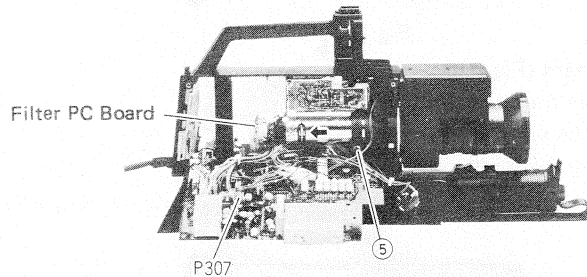

Fig. 6
#### 5. Deflection coil (Fig. 6)
1. Remove the preamplifier PC Board (Fig. 6).